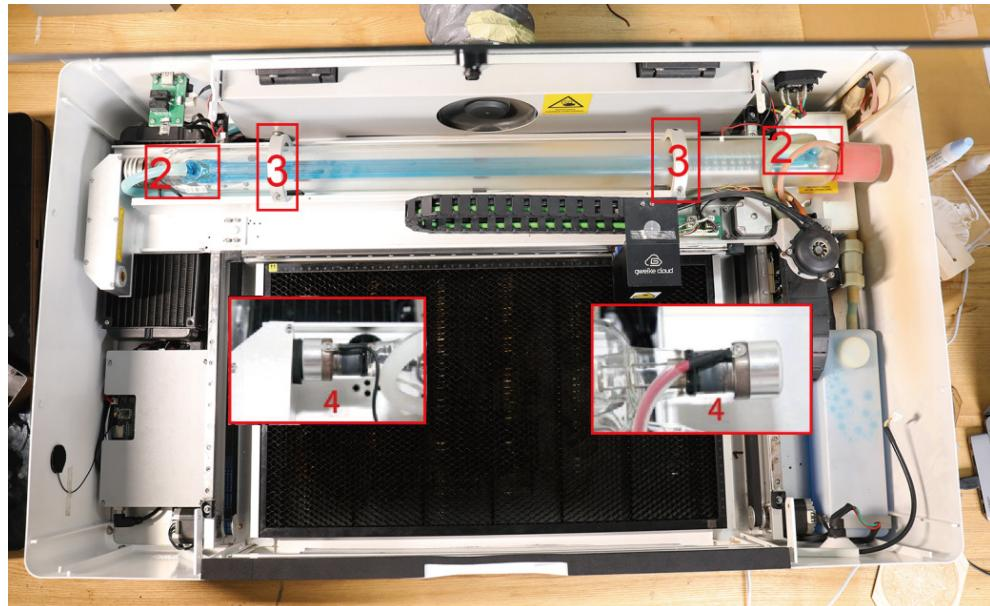

Figure 27
③ Remove the screws at the low voltage and high voltage (4) end, remove the water pipe (2), unscrew the pipe clamp (3), and take out the old laser tube (see Figure 27)